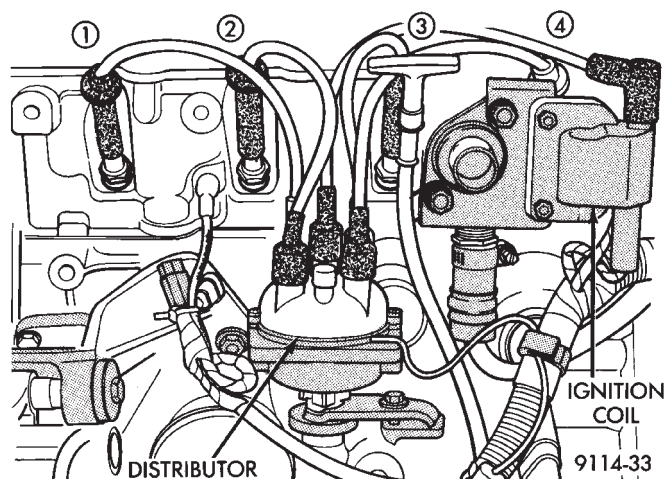

Fig. 13 Ignition Cable Routing and Connection
(19) Verify all ignition cables are in correct order and seated into place (Fig. 13).